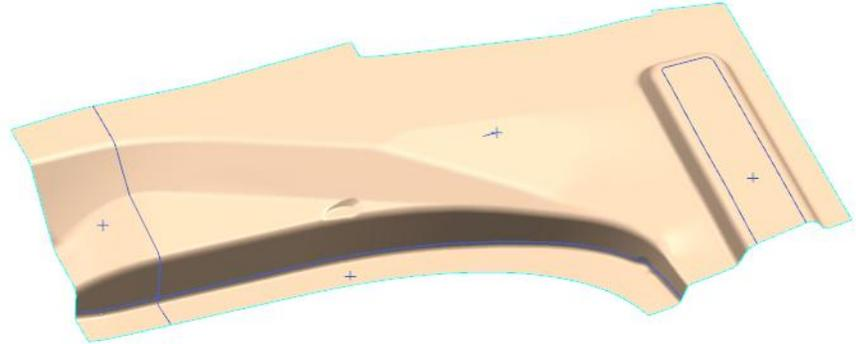

Figure 11–2
1. Open **MULTI_LAYER_DEFINITION_A.prt**. The model displays as shown in Figure 11–2.